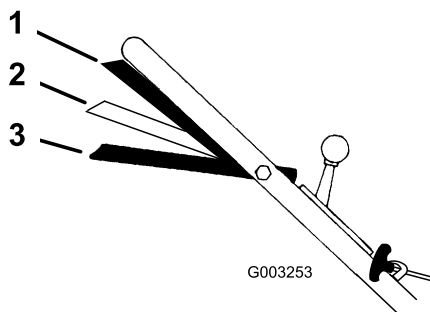

Figure 16
1. Move the ground speed control to the Neutral (N) position.
3. Squeeze the blade control bar against the handle to the Run/Drive position (Figure 16).
the Run/Drive position; this can damage the transmission. Move the blade control bar to the Run/Shift position (Figure 16) when you change the ground speed.